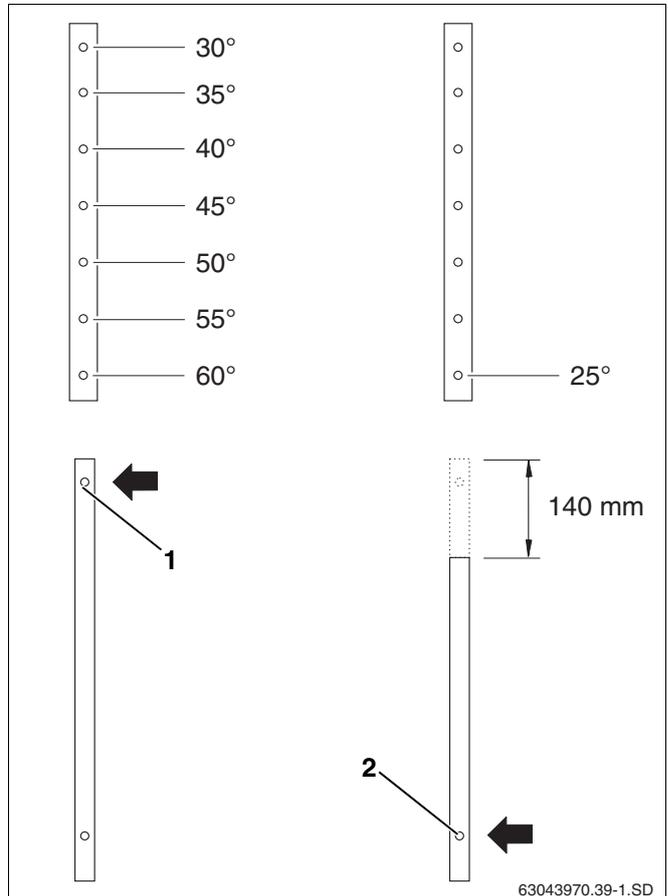

Fig. 12 Adjust angle of inclination for portrait collectors
- ▶ Select holes on the upper and lower telescopic rails as shown in Fig. 12 and Fig. 13.
For vertical installation of a collector with an angle of inclination of 30° to 60°, use the uppermost hole on the lower telescopic rail (Fig. 12, **Item 1**).
For an angle of inclination of 25°, you must shorten the top of the lower rail by 140 mm and use the lower hole (Fig. 12, **Item 2**).